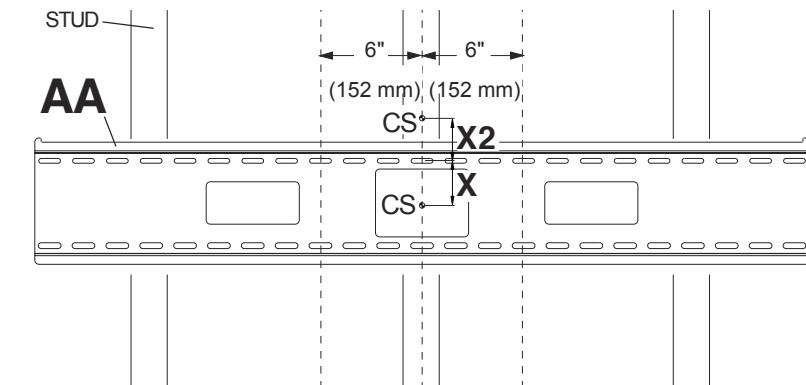
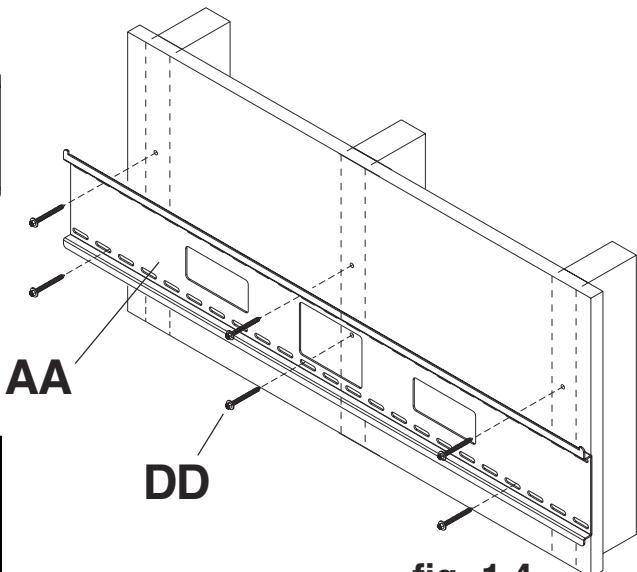

fig. 1.3
fig. 1.4
1 Wall plate (AA) can be mounted to three studs that are 16" apart. Use a stud finder to locate the edges of the studs. Use of an edge-to-edge stud finder is highly recommended. Based on their edges, draw a vertical line down each stud's center. Place wall plate on wall as a template. The top mounting slots should be located above the desired screen center as indicated by dimension X in figure 1.3 and chart below. Level plate, and mark the center of the six mounting holes. Make sure that the mounting holes are on the stud centerlines. Drill six 5/32" (4 mm) dia. holes 2-1/2" (65 mm) deep. Make sure that the wall plate is level, secure it using six #14 x 2.5" wood screws (DD) as shown in figure 1.4.
Note: When mounting equipment weighing greater than 200 lbs, triple stud mounting is strongly recommended. If mounting to two studs on 16" centers, leave an open stud in center. Wall plate may be mounted up to 6" (152 mm) off-center as shown in figure 1.3.